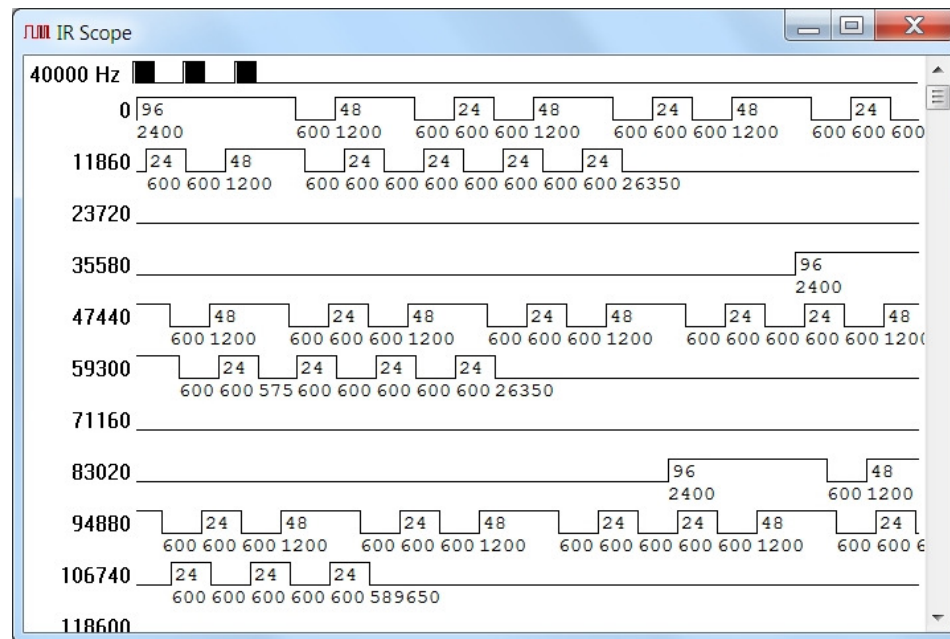

Figure 4. Waveform Display for Sony POWER Button
Figure 4 shows the resulting **waveform display**, and Figure 5 shows the corresponding decode entry that appears in the main window. Even if **IRScope** is unable to identify an unknown protocol its waveform will be displayed.
In Figure 4 the first line of the waveform display shows the carrier frequency, followed by a one-line thumbnail sketch of the captured signal that provides an overview of your recording. Our example was shot with the default selection of **Thumbnail Scale**, which is **Entire Waveform**. That means the thumbnail shows everything that was recorded, from the beginning of the first signal to the end of the **Capture Duration** period 700 milliseconds later.
The chart in Figure 4 depicts the demodulated carrier, drawn to a precise scale of 20 μ S per pixel. Waveform timing starts on the second line at time **0** (the moment the remote began transmitting), and increases from left to right across successive rows as you move down the screen. Numbers down the left side (**11860, 23720, 35580, 47440**, etc.) show the time in μ S at that point in the waveform. Raised portions of the waveform are periods when the carrier is turned ON, and lower (baseline) portions are periods when it is turned OFF. Numbers beneath the baseline (**2400, 600, 1200, 600**, etc.) are carrier ON and OFF times in μ S, and numbers above the baseline within the raised portions (**96, 48, 24, 48**, etc.) are the number of carrier cycles (infrared pulses) that were counted by the **Widget** during those ON bursts.
8. CHANGING THE APPEARANCE OF A WAVEFORM DISPLAY IRScope allows you to manipulate the appearance of waveform displays in many ways, for taking measurements, making comparisons, etc. Probably the change that is most useful is to vary the waveform resolution to see more or less detail. It's fast and easy. To illustrate, I'll start with Figure 4 as an example. Here's the start of what that waveform looks like as captured.